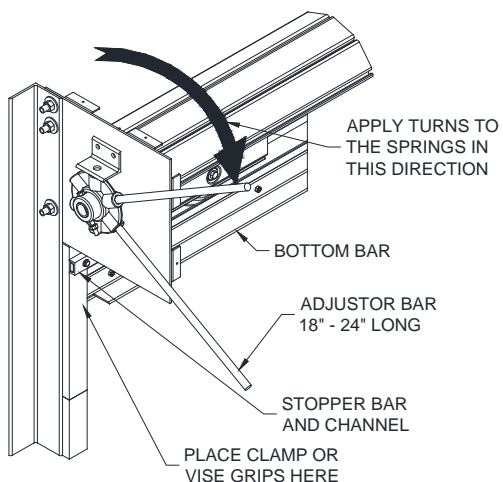

Figure 8.4 – Clamping the Guides, Applying Turns.
12. Since there is no spring tension holding the curtain open, the curtain may fall if released. If the operator cannot be used to hold the curtain in the open position, place C-clamps or vice grips, see **Figure 8.4**, on the guides just below the bottom bar -or- rest the bottom bar on the slings used to hang the shaft in the previous steps to hold the door open.